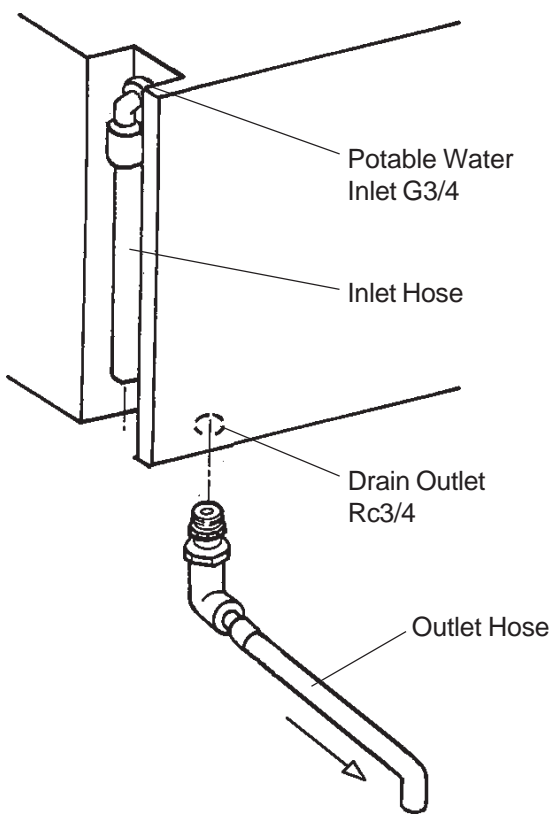

Fig. 6
- 1) Attach the angled end of white flexible inlet hose (accessory) onto the G3/4 fitting on the rear of the icemaker as indicated (Fig. 6), ensuring rubber sealing washer is correctly positioned. Hand tighten sufficiently to provide leak free joint.
- 4) Tighten the 3/4-3/4 nipple and elbow onto the Rc3/4 fitting on the bottom of the icemaker as indicated (Fig. 6). P.T.F.E. tape and/or a suitable sealing compound should be used to obtain a leak free joint.